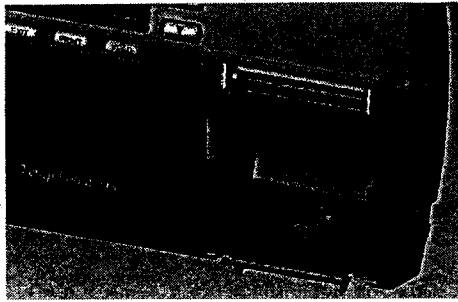

Figure 5: Securing the Unit to the Bracket
4. Fasten one screw through the hole under the paper roll to secure the OM-VLT to the bracket, as shown in Figure 5.